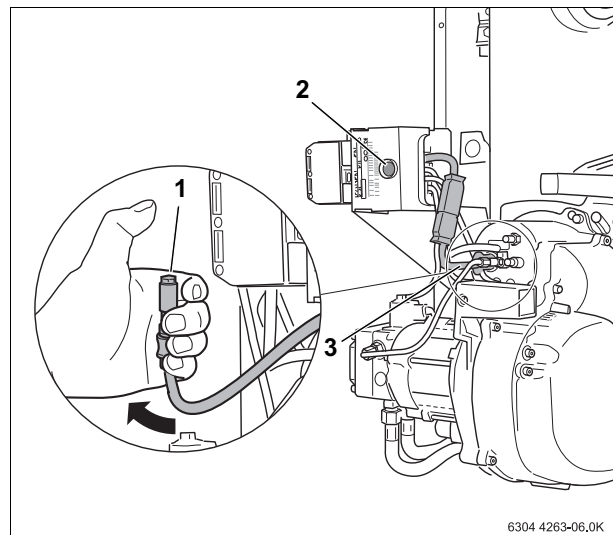

Fig. 15 Check function of flame sensor
- While the burner is running, pull the flame sensor out of its holder using the handle provided (Fig. 15, **Item 3**).
- Point the flame sensor towards the light (Fig. 15, **Item 1**). It must shut off immediately, then lock out after restarting.
- After waiting for approx. 30 seconds, reset the burner control unit by pressing the reset button (Fig. 15, **Item 2**).